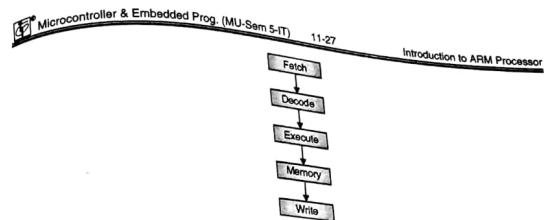

Fig. 11.10.4 : Five stage pipeline to be forwarded internally from one stage to next and of ARM9 TDMI processor
- The pipeline for ARM9 processor is a five stage pipeline as shown in Fig. 11.10.4.